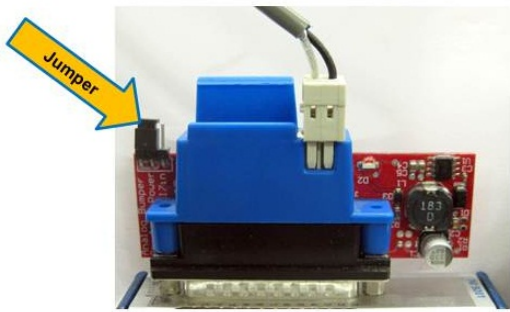

Figure 4-10: Jumper for Battery Voltage Reading
- C. A jumper must be installed in the “Power” position (two outer pins) on the Analog Breakout Board (see Figure 4-10).